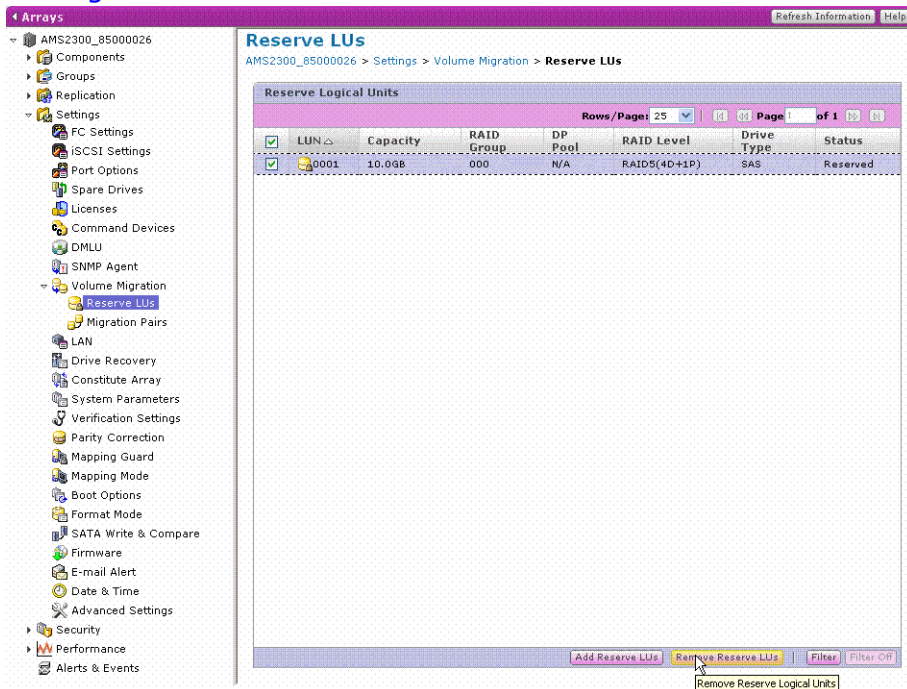

Figure 11-13: Reserve LUs dialog box - LUN Selected for Deletion
1. From the Reserve LUs dialog box, select the LUN to be deleted as shown in Figure 11-13.